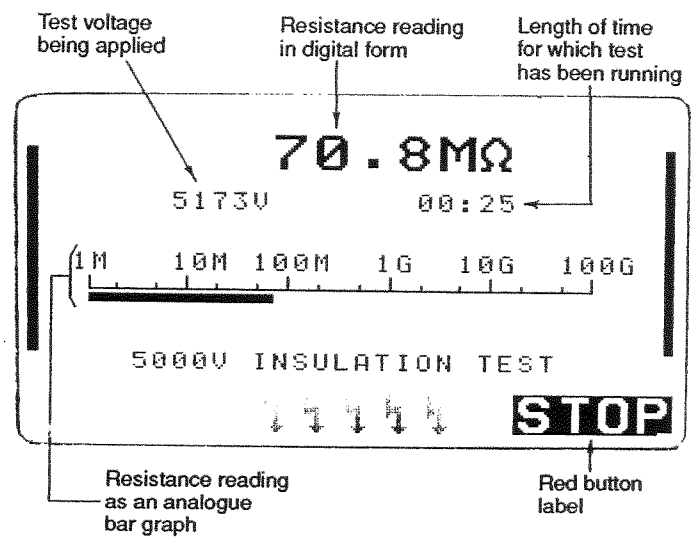

Figure 25 Typical screen display for a simple IR test (equivalent to the 'ANALOGUE DISPLAY' of an enhanced test)
- (iv) The display will be similar to that shown in figure 25.